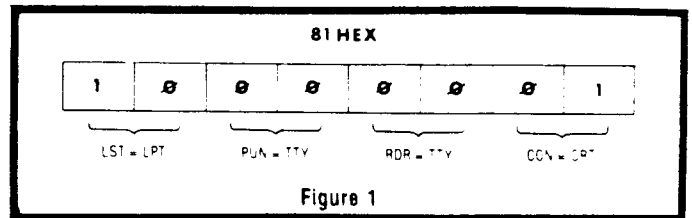

Figure 1
Figure 1 shows how the byte is divided in four portions for this purpose.
The ELSE and false part are optional; true to the language's RPN base, the instructions follow their operands. An ELSE will be represented in the actual code by an unconditional branch instruction to the point represented by the THEN; the THEN itself will leave no trace in the code (see Figure 1). The IF is the tricky part, for it must make a decision based on a flag in TOS, but the microprocessor's branch instructions can judge only microprocessor status flags. Therefore a routine is needed to change a stack flag into a microprocessor flag, in this case the 6502 carry flag. The IF will be represented by a call to (IF) followed by a BCS (branch on carry set) instruction branching to beyond the ELSE or (if there is no ELSE) to the THEN.
conditionals (see Figure 1); they will take one of these two forms:
Indexed loops require a somewhat different approach, as they involve more than a simple testing of a condition (see Figure 1). They also will take two different forms: